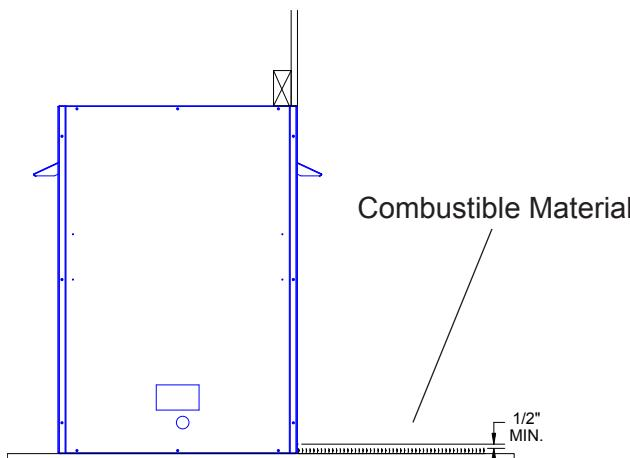
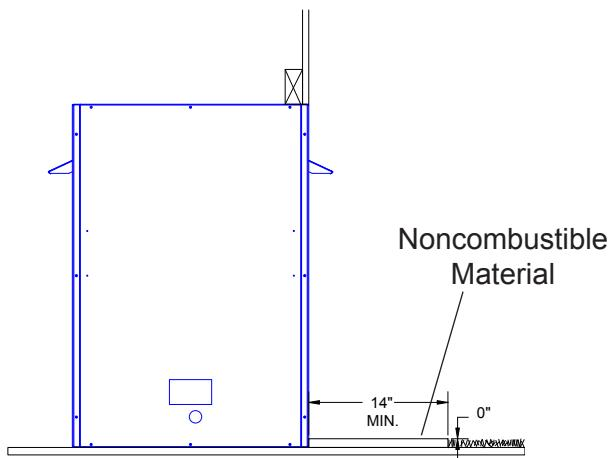

Figure 7 - Floor Clearance above Combustible Flooring Material
Figure 8 - Floor Clearance above Noncombustible Flooring Material
6. **Floor clearance** — This firebox hearth opening (inter-chamber floor) must be installed at least $1\frac{1}{2}$ " above any combustible flooring material *Figure 7* or, the firebox hearth may be installed flush with the floor if non-combustible material such as slate or marble is installed between the base of the firebox and the combustible flooring. The firebox may be installed directly on a combustible floor or raised on a platform of an appropriate height. Do not place firebox on carpeting, vinyl, or other soft floor coverings. It may, however, be placed on a flat wood, plywood, particle board, or other hard surfaces. Be sure firebox rests on a solid continuous floor or platform with appropriate framing for support so that no cold air can enter room from under the firebox. *Refer to Figure 8*.